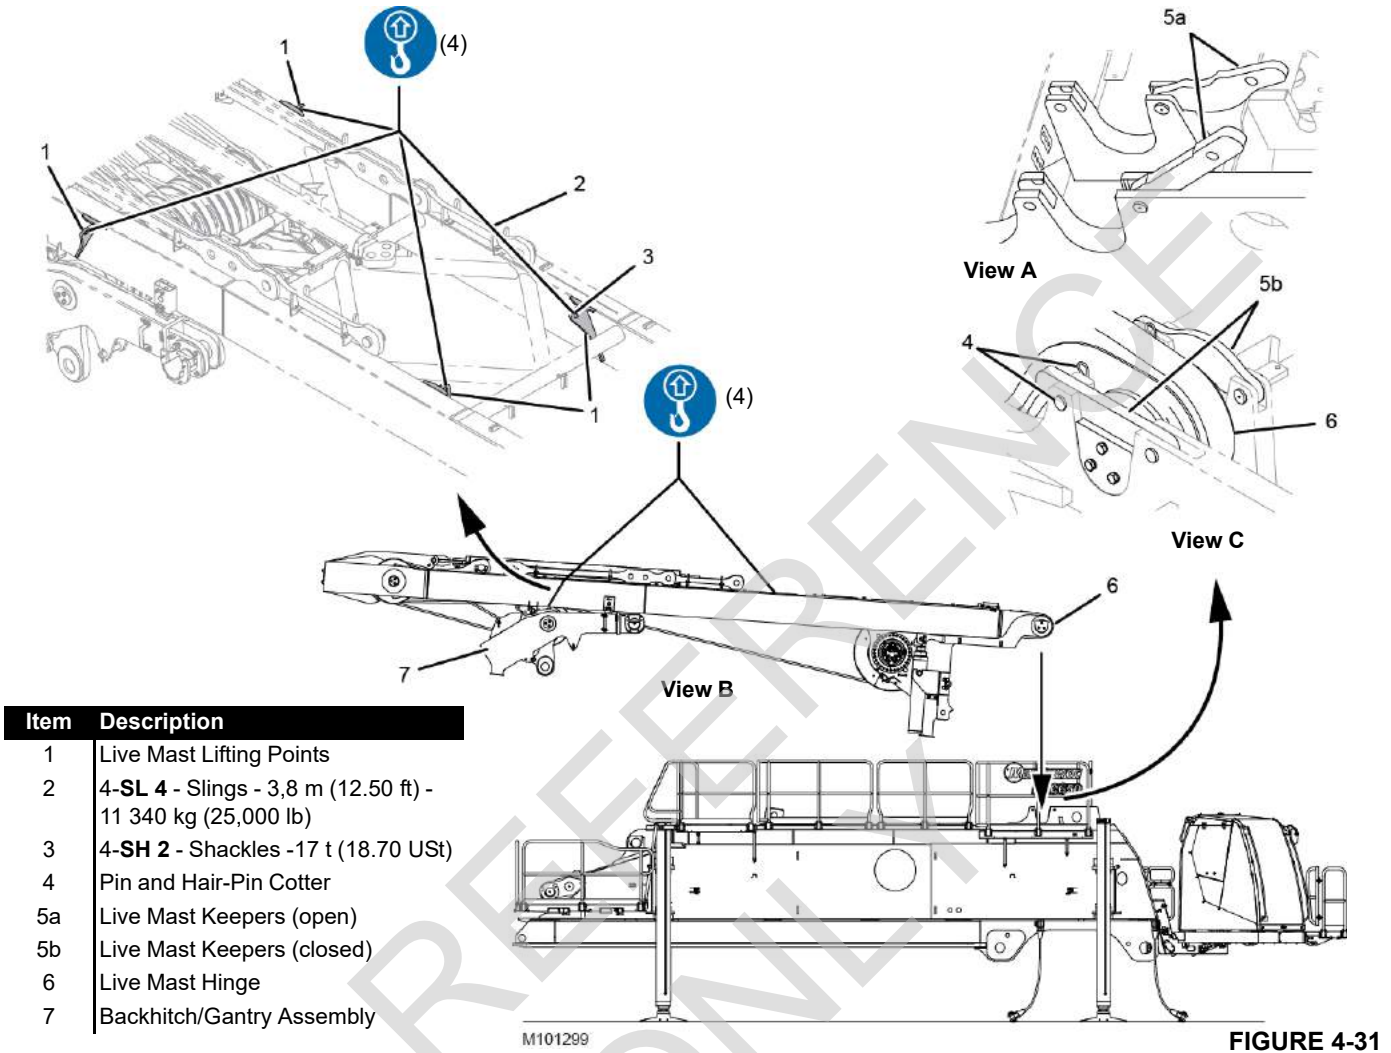

FIGURE 4-31
See Figure 4-31 for the following procedure.
9. Once the live mast hinge is engaged in the rotating bed pockets, secure the mast to the rotating bed by closing the live mast keepers (5b, View C Figure 4-31) and inserting the pins and hair-pin cotter (4, View C Figure 4-31).